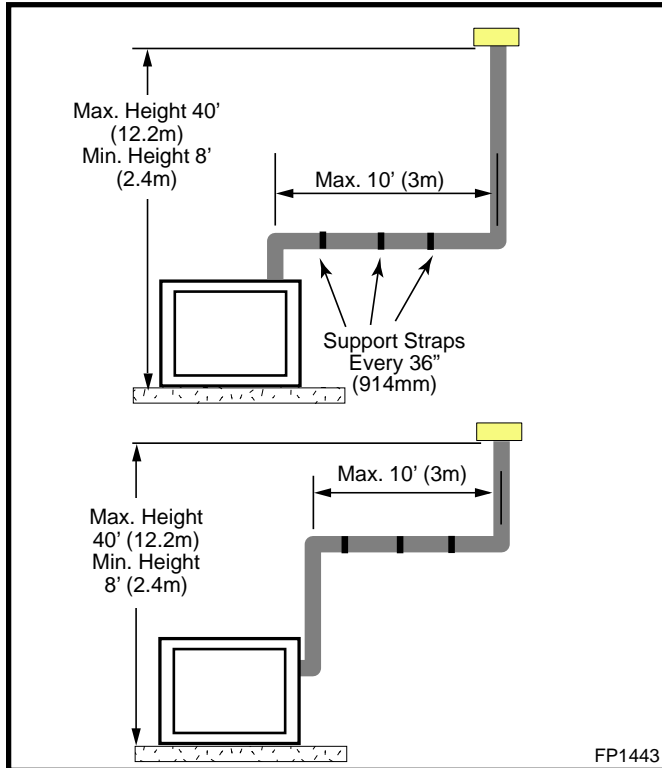

Fig. 30 Support straps for horizontal runs.
- Vertical installations up to 40' (12m) in height. Up to a 10' (3m) horizontal vent run can be installed within the vent system using a maximum of two 90° elbows. (Fig. 30)
- Two (2) sets of 45° elbow offsets may be used within the vertical sections. From zero to max 8 ft. (2.43 m) vent pipe can be used between elbows. (Fig. 30)